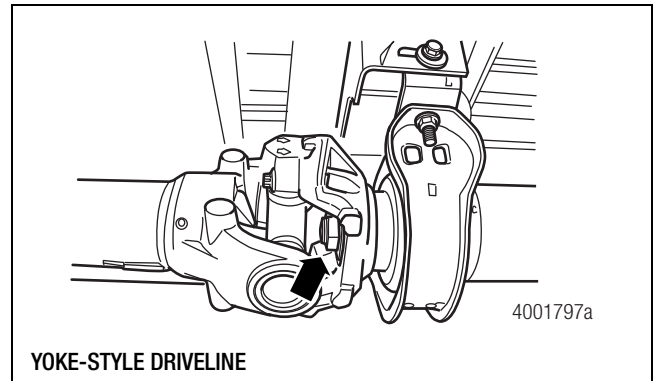
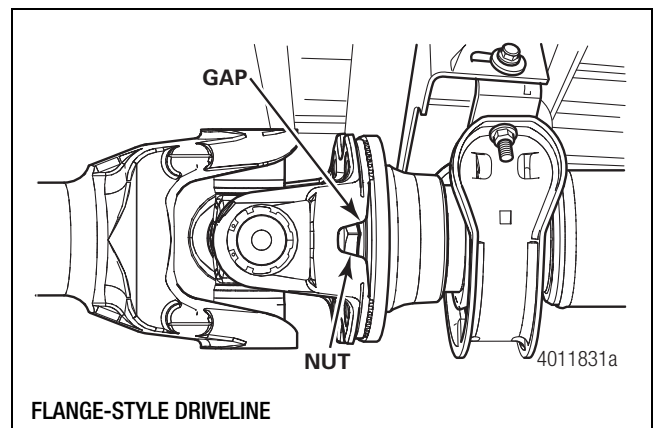

Figure 3.7
Figure 3.8
1. Inspect all center bearing and end yoke or flange midship nuts for gaps or looseness between the mating surfaces. Figure 3.7 and Figure 3.8.